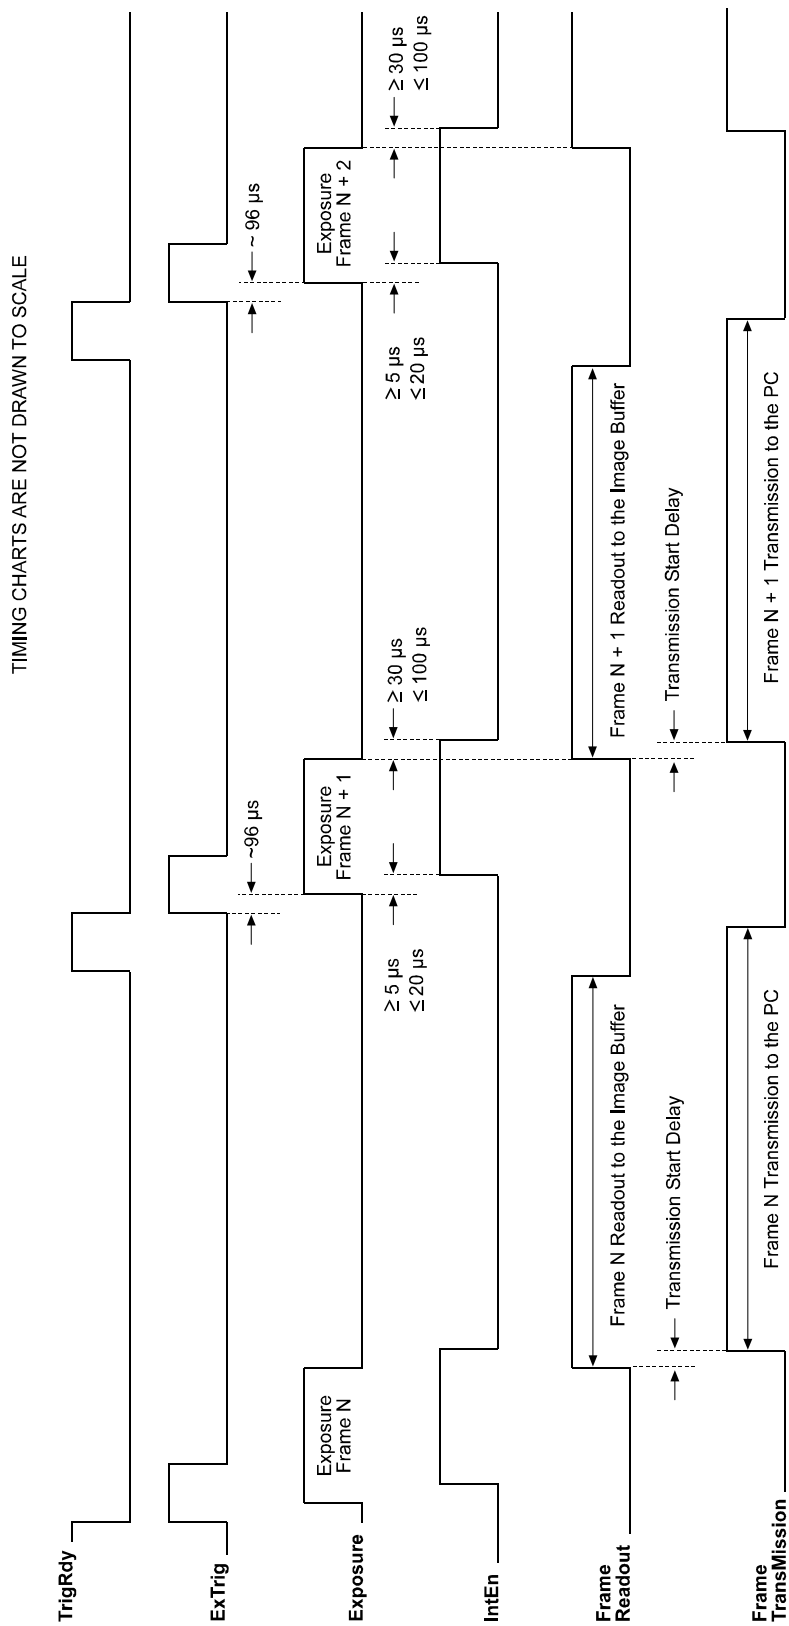

Figure 3-7: Exposure Start Controlled with an ExTrig Signal
- The start of exposure will typically occur 96 μs after the rise of the ExTrig signal as shown in Figure 3-7.
As shown in Figure 3-7, after each image is captured, the camera begins reading out the captured image data from the CMOS sensor into a buffer in the camera. When the camera has determined that a sufficient amount of image data has accumulated in the buffer, it will begin transmitting the image data from the camera to the host PC.